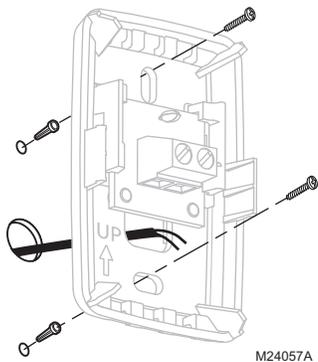

Fig. 37. Mount wallplate to wall
5. Place wallplate over anchors, insert and tighten mounting screws see Fig. 37.